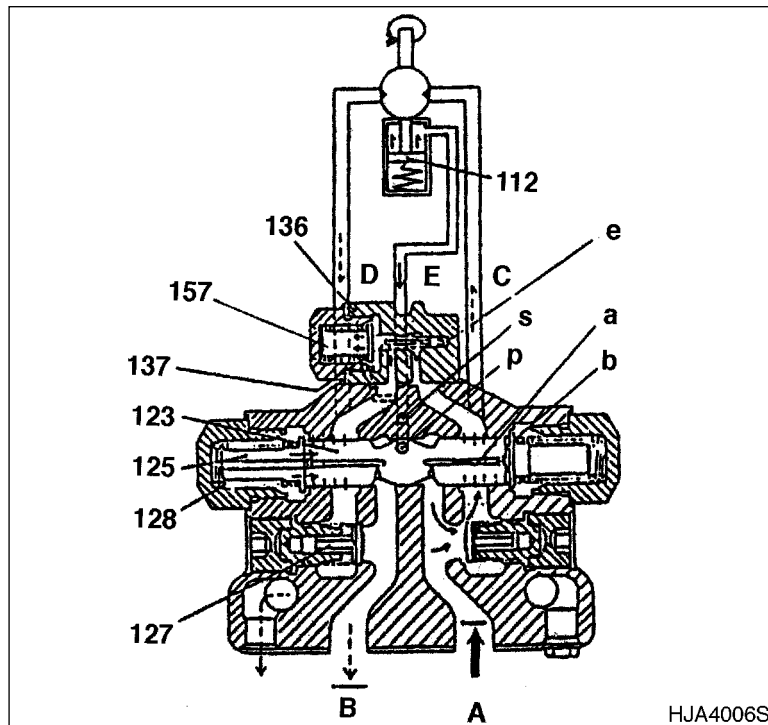

Figure 4
18. Bolt up two halves of motor casing (301 and 303, Figure 4). Be careful not to lose or damage O-ring. Tighten four 20 mm socket head bolts using a progressive, even rotation. Make sure that all brake springs are fully seated and that valve casing inlet and output ports are correctly matched.